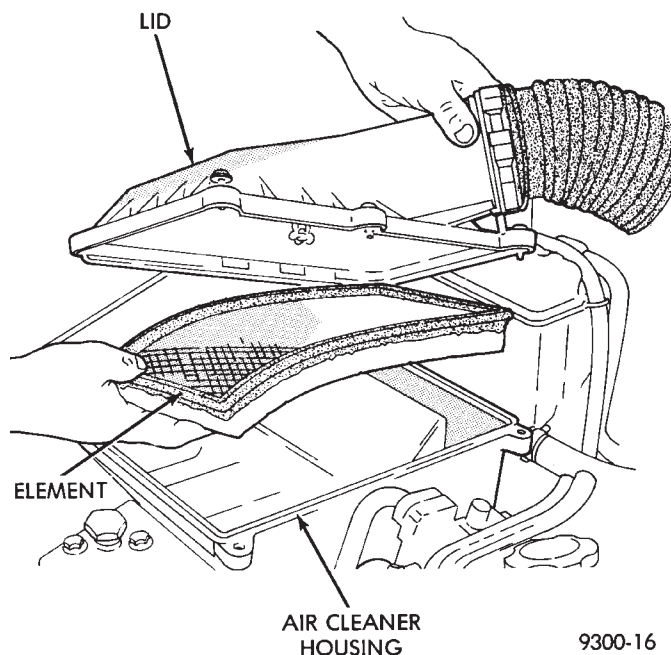

Fig. 84 Air Cleaner Housing and Element
- (1) Remove air cleaner lid attaching screws. Lift lid off of air cleaner housing.
- (2) Remove filter element (Fig. 84).